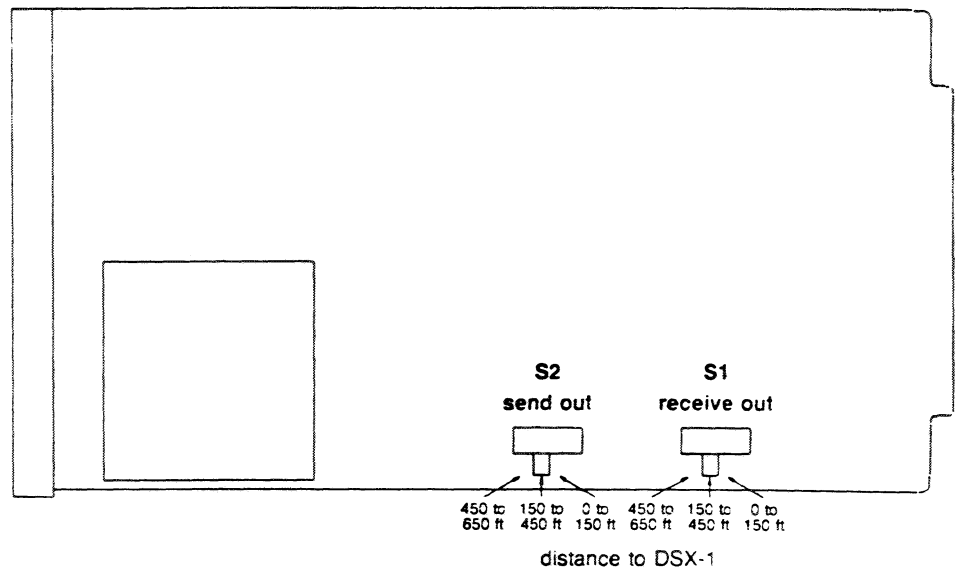

Figure 5. CO Equalizer Option Locations
- 3.03 The 2531/2531A has two switch-selectable equalizers: one at the send-out port and one at the receive-out port. Each equalizer has a 3-position switch located on the printed circuit board that must be optioned for the distance between its respective output and the associated DSX-1 cross-connect frame as shown in Figure 5. This is the only switch option for the module.